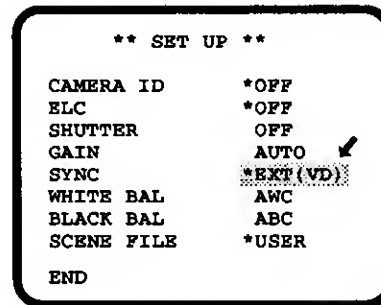

Fig.37.
- Connect the coaxial cable of the external VD signal to the VD Input Connector (21) and confirm that the "INT" position changes to "EXT (VD)" indication as shown in Fig 37.